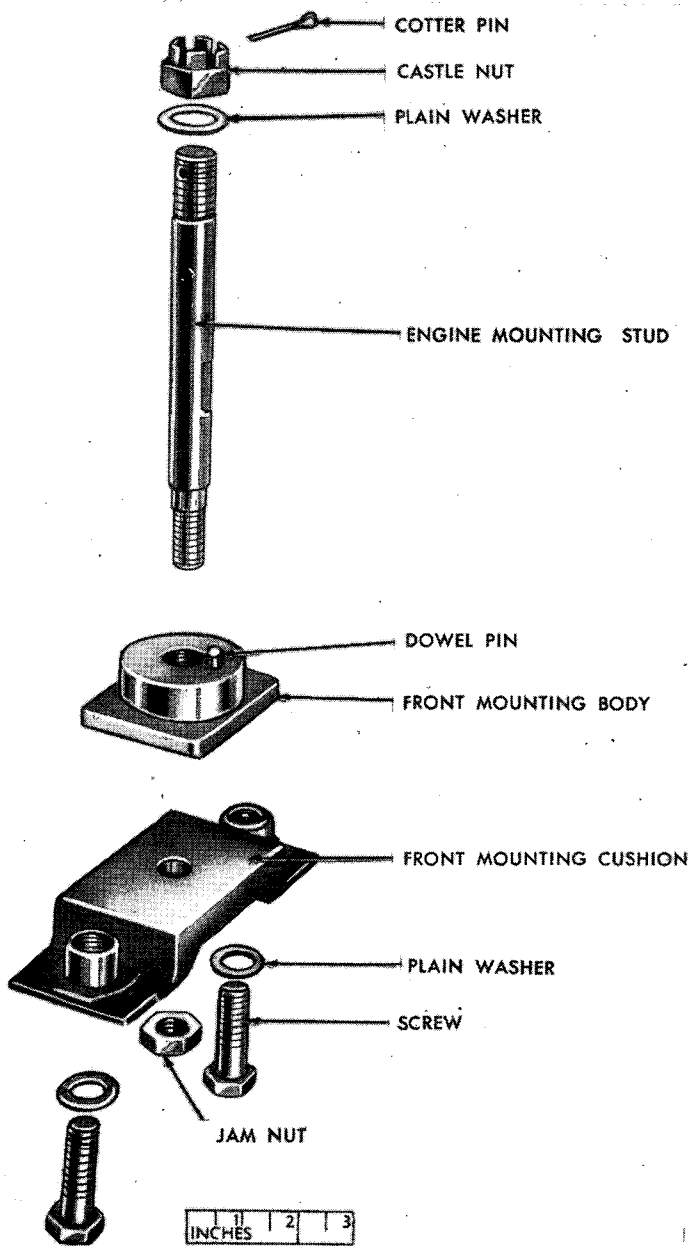

Figure 140. Engine mounting—exploded view.
- (1) Remove top deck assembly (par. 158*b*).
- (2) Remove power plant (par. 159.)
- (3) Set power plant on stand (or use blocking) so mountings are clear of any obstructions.
- (4) Remove the cotter pin, castle nut, and plain washer, securing each mounting (fig. 140) to side of oil pan. To disassemble engine mounting, remove jam nut at bottom and unscrew stud from mounting cushion.